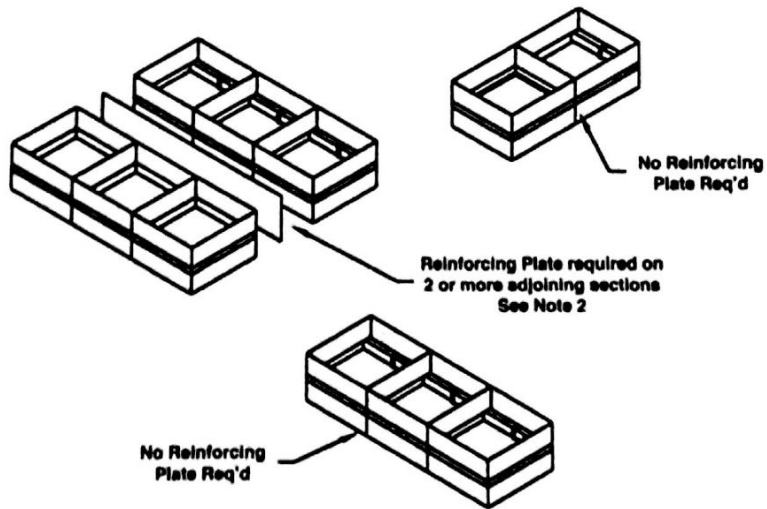

FIGURE 5
Multiple section horizontal mount dampers require a 14 gage thick x $4 1/2$ " (2 x 114) wide steel reinforcing plate sandwiched between the damper frames with $1/2$ " (13) long welds staggered intermittently and spaced on maximum 6" (152) centers. The reinforcing plate must be the same material as the dampers. The length must be equal to the damper width of two or more adjoining damper sections. Reinforcing plates are not required for assemblies consisting of two dampers attached end-to-end or three dampers attached side-to-side as depicted in figure 5.